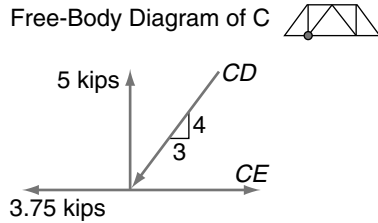

FIGURE 5–7
Step 9. Knowing the value of $BC = 5$, move from pin B to pin C and draw a free-body diagram (Figure 5–7).